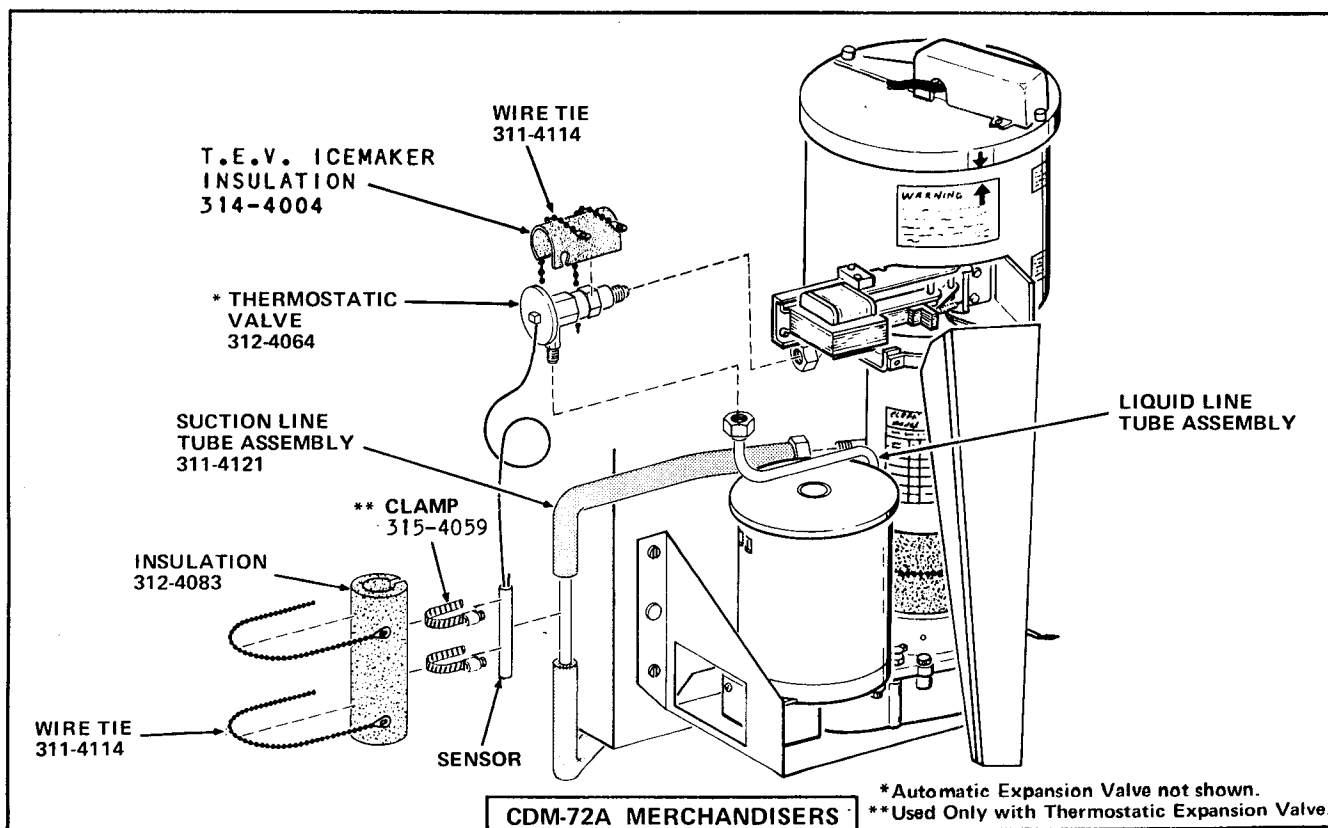
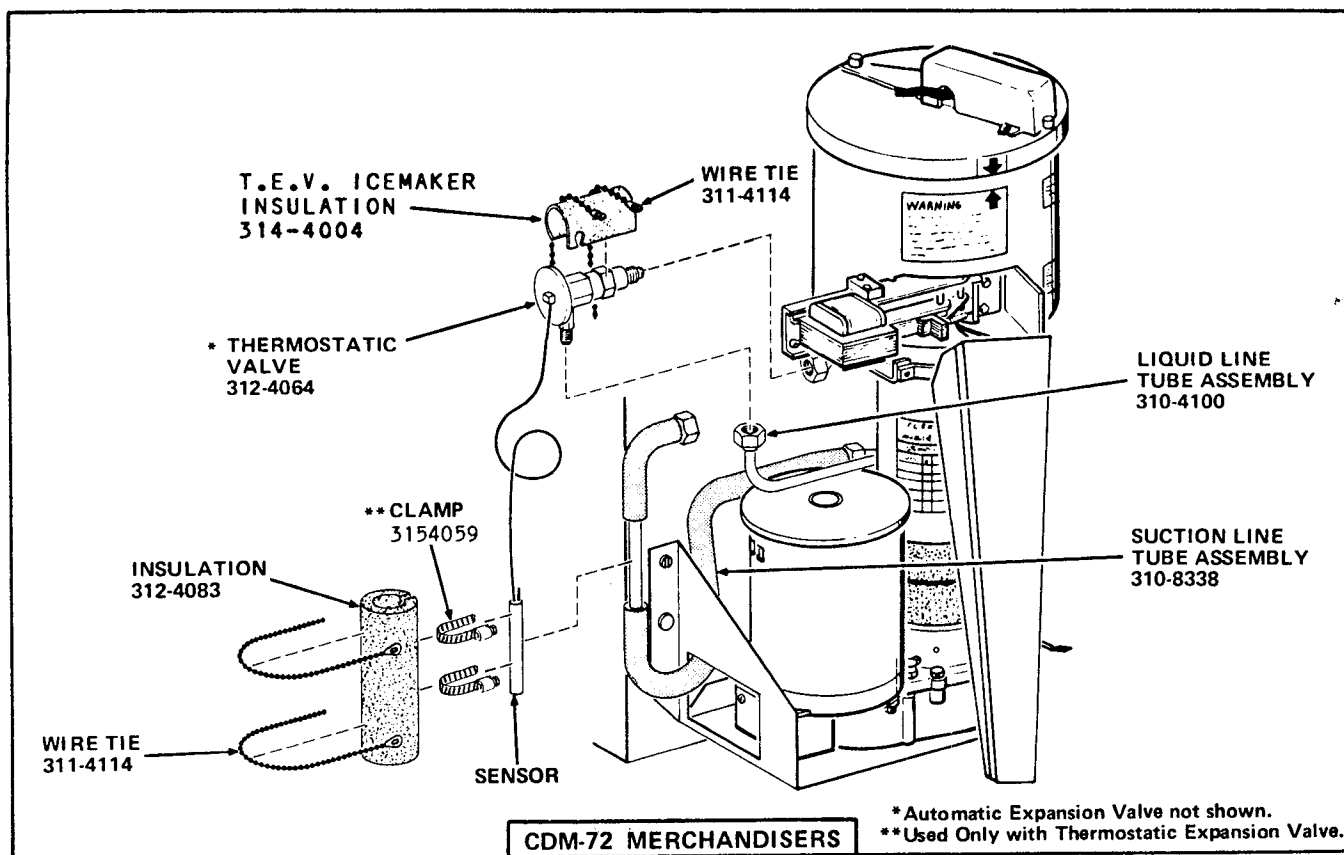

FIGURE IV-3
FIGURE IV-4
- K. Install the replacement Icemaker Suction Line Tube Assembly, Part Number 310-8338 (CDM-72 Merchandisers) or Part Number 311-4121 (CDM-72A Merchandisers) included in the Kit, in the Merchandiser by connecting one end of the Icemaker Suction Line Tube Assembly to the Solenoid Valve and the other end to the Icemaker Assembly. See Figure IV-3 for CDM-72A Merchandisers and Figure IV-4 for CDM-72 Merchandisers.